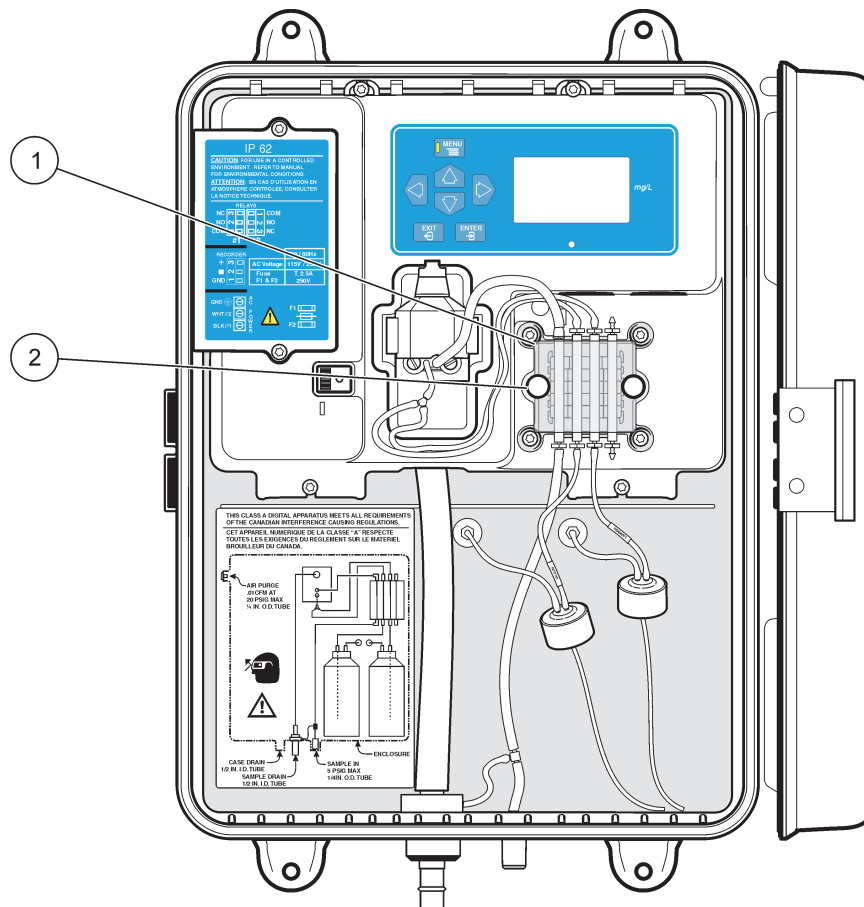

Figure 18 Aligning the pump/valve module pinch plate
3. Align the pinch plate on the pump/valve module (refer to Figure 18).